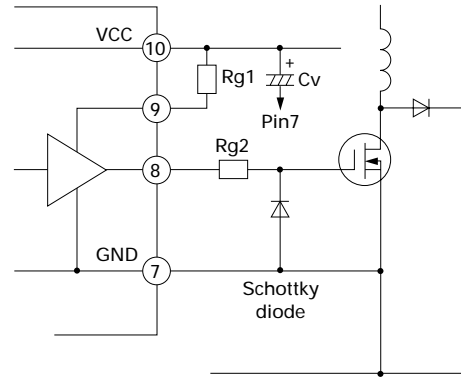

Fig. 8 Output circuit
As Fig. 8 shows, pin 9 is configured as the high power terminal (VC), independent of the IC power terminal (VCC). This pin allows an independent drive resistance when the power MOSFET is ON and OFF. If the drive resistances in the ON and OFF states are $R_{g(on)}$ and $R_{g(off)}$, the following formulas can be used to determine the total gate resistance R_g :